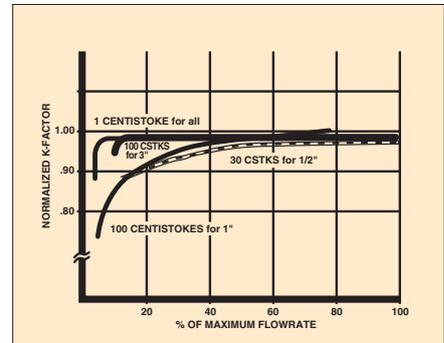

Figure 4: Viscosity effect on a turbine meter
1) Narrow the operating range: For any given flowmeter size, it is observed that, as viscosity increases, the low portion of the flowmeter's range is affected more than is the higher portion of the flowmeter's range. To maintain a required accuracy, the minimum flowrate must increase as viscosity increases. There is also a slight change in the average calibration constant as viscosity increases. Figure 4 shows the calibration trends typical of a 1/2", 1" and 3" turbine flowmeter. Note that, the smaller the flowmeter, the more sensitive the unit is to higher
3) Request a special calibration: A turbine flowmeter can be calibrated on a test fluid that approximates the viscosity it will see in service, rather than on water. However, this typically adds approximately \$350 to the cost of the turbine meter, and extends the delivery time as well. Calibrations can be performed on fluids up to 100 centistokes, depending on meter size. However, as we see from Figure 4, depending on meter size, the turbine meter may be very nonlinear (greatly changing the K factor, or number of pulses/gallon) at a particular viscosity and flowrange. This can be linearized in a computer for the entire operating range, so as to maintain the highest measurement accuracy, or it may be necessary to narrow the operating range and accept a lower accuracy to permit the use of a